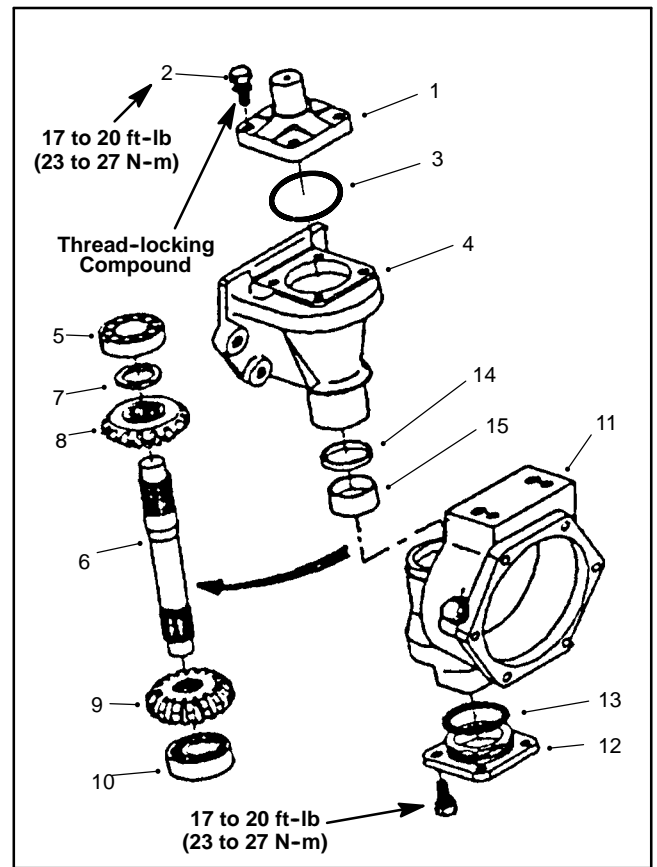

Figure 20
5. Remove the knuckle pin mounting screws and the knuckle pin. Remove the gasket and any remaining gasket material from either mating surface (Fig. 20).
10. Remove and discard bevel gear shaft seal from axle case (Fig. 20).